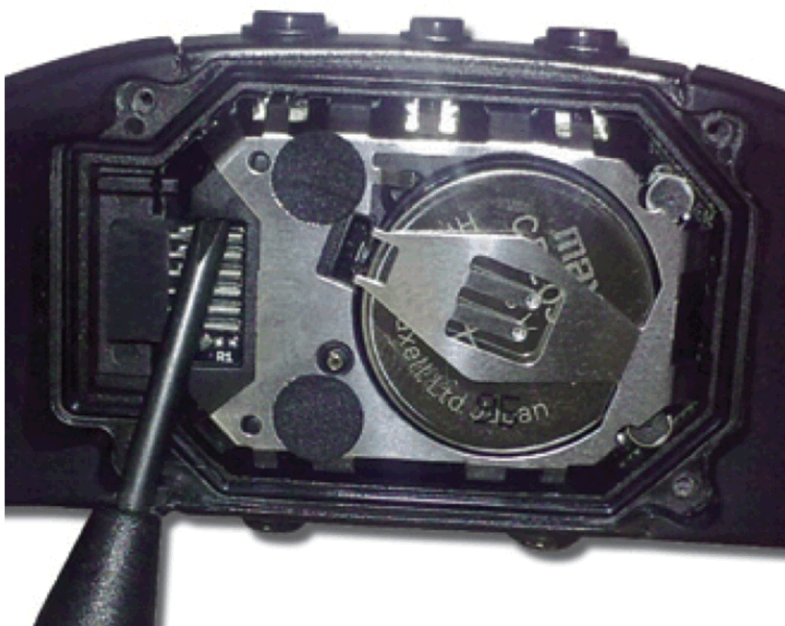

Figure 4-1. Remove Chronos Module From Housing
3. Lift out the Chronos module. Use the screwdriver as shown in Figure 4-1.